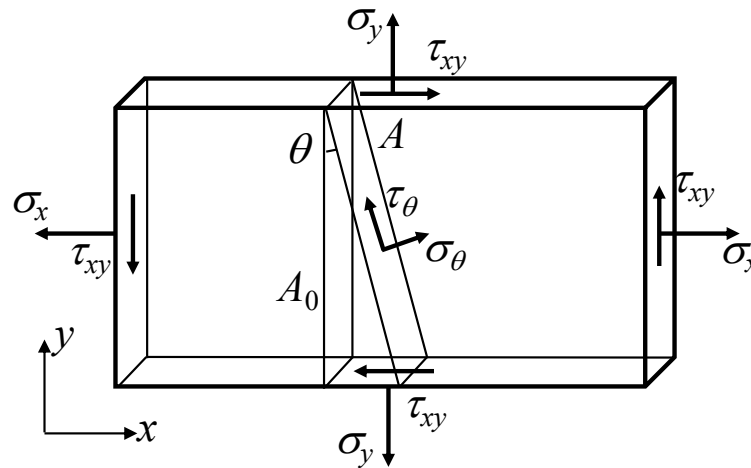

Figure 2
2. Consider the stress acting on a uniform thin plate in the plane stress state as shown in Figure 2. Here, normal stresses acting on cross-sections perpendicular to the  $x$ - and  $y$ -axes are denoted by  $\sigma_x$  and  $\sigma_y$ , respectively, and shear stress acting on these cross-sections is denoted by  $\tau_{xy}$ . Answer the following questions.